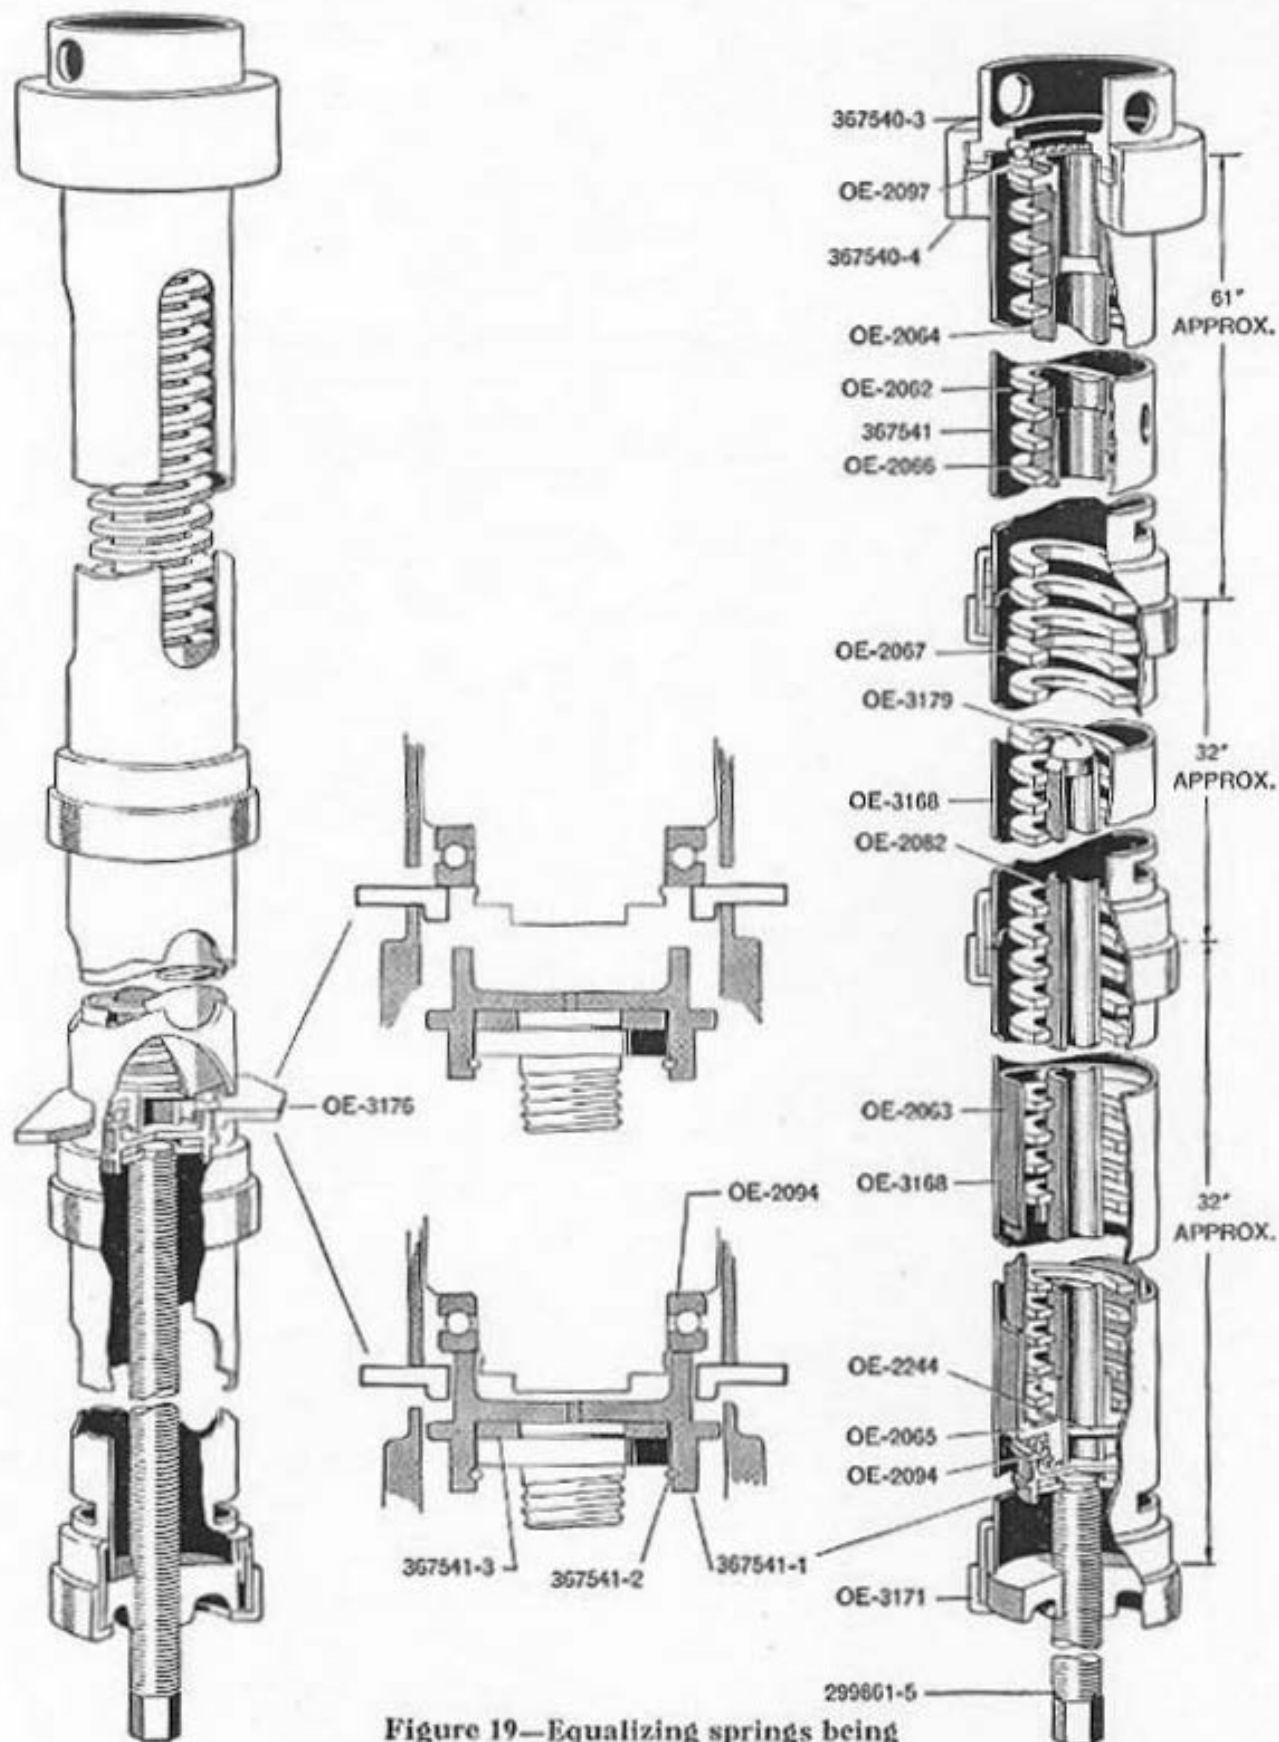

Figure 19—Equalizing springs being held by stop plate (OE-3176)
8. Turn the wrench brace counter-clockwise to release the spring until it is just short of the transverse slots, Figure 19, in the long tube. Insert stop plate assembly (OE-3176) in the transverse slots in long tube (367541).
CAUTION—See that the spacing ring (OE-2067) is in place between the equalizing springs. Make certain that the springs are in alignment, see Figure 19. Keep watch of the end of the inner guide tube (OE-2064) when it gets into a position where it will contact the spacing ring (OE-2067); also see that when the second section of the equalizing spring contacts the end of the inner guide tube (OE-2064) all parts (spacing ring and springs) are properly aligned.
5. Turn the wrench brace clockwise to compress the springs until the thrust bearing is just beyond the transverse slots, see Figure 19, in the second short tube. Insert stop plate (OE-3176) in these transverse slots as shown.